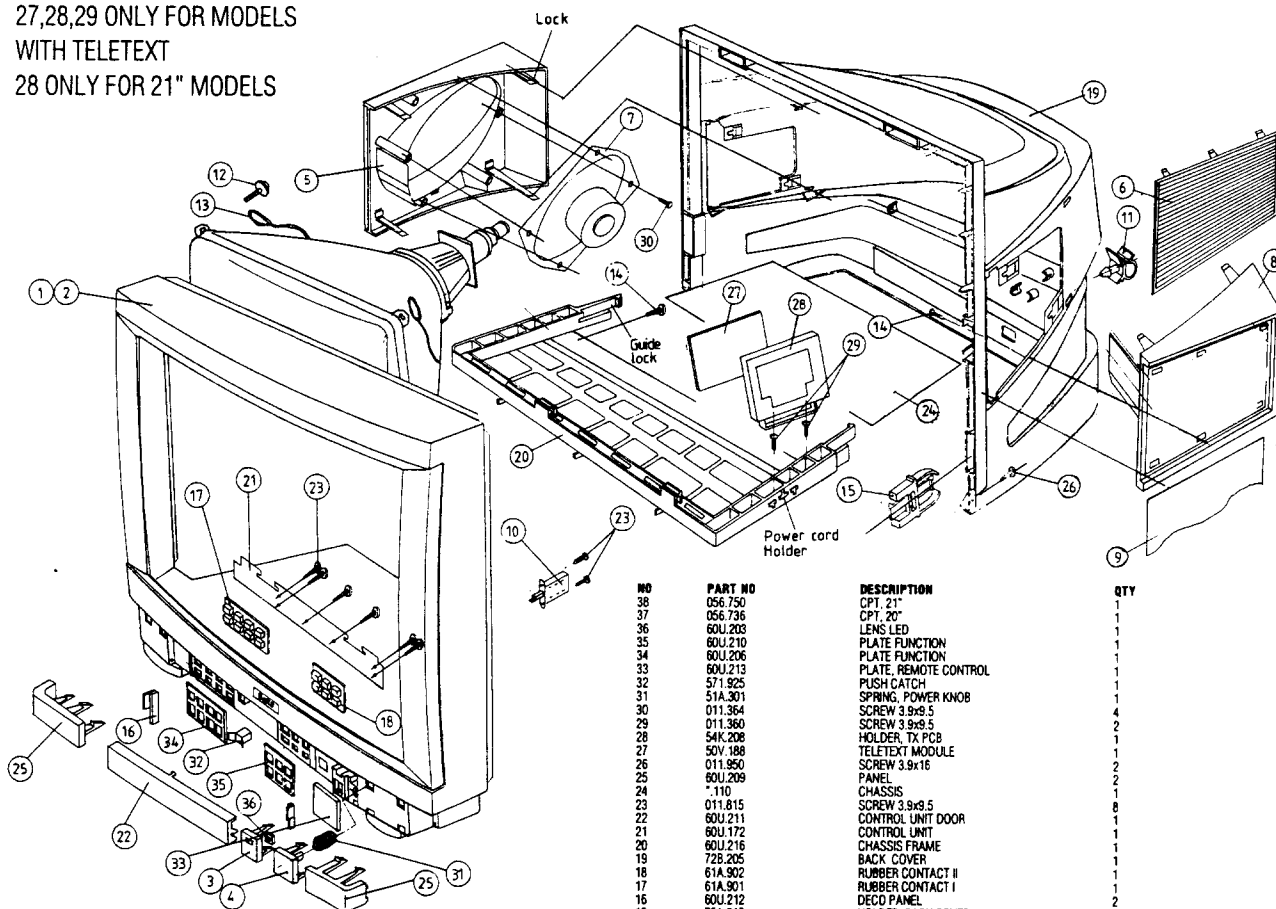

Figure 4
3. Remove the 4 screws holding the speakers on the speaker assembly. Figure 4